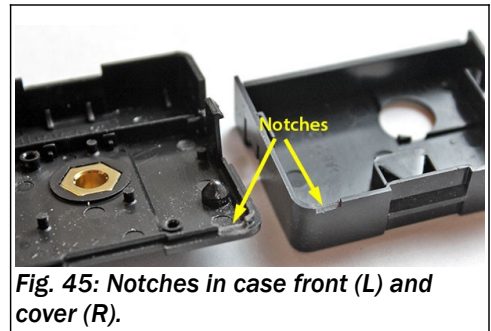

Fig. 45: Notches in case front (L) and cover (R).
- ☐ Cut a matching slot in the top side of the case cover (near the corner farthest from the large hole for the time-setting knob). Fig. 45 shows the notch in the case and the matching notch in the cover, which is flipped over to the right. Refer to **Fig. 28** on page **41** for a front view of the movement with the wires exiting through the slot.